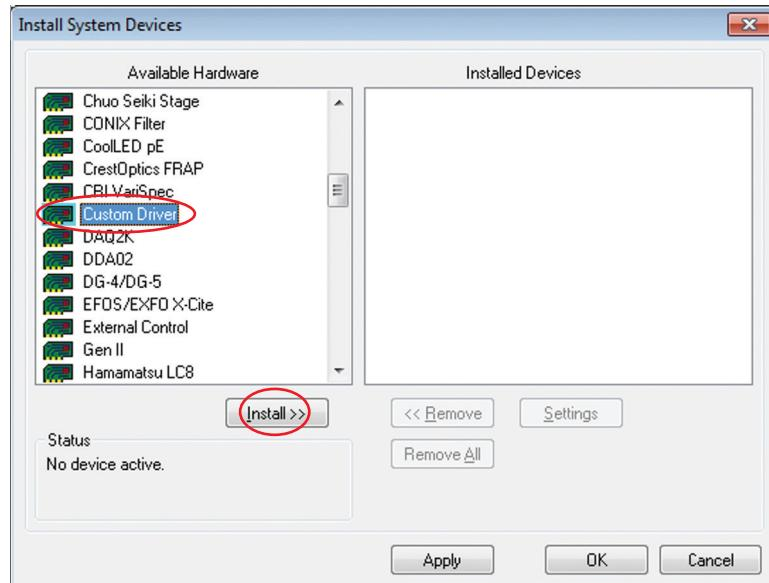

Figure VI-10. Install Custom Driver
5. Select **Custom Driver** from the left side panel, as shown in Figure VI-10, and then click the Install button.